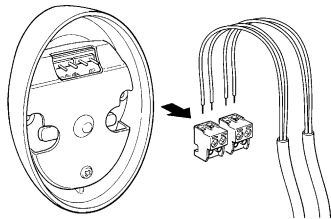

Figure 53
**7** Connect the electric cables to the appropriate OPEN and STOP terminals, as shown in figure 53. It is not necessary to observe any polarity. The terminals can be removed in order to facilitate the operations; make the connections and then reinsert them.